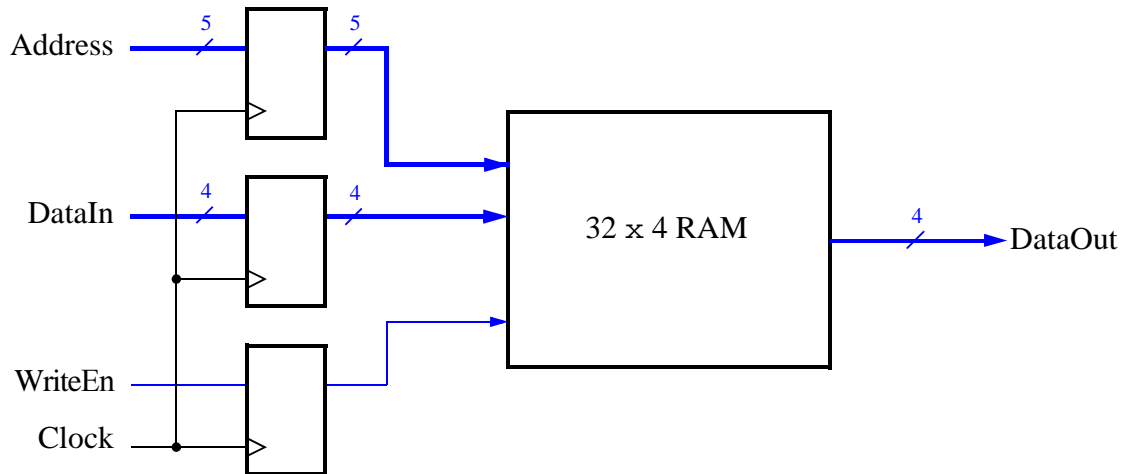

Figure 1: Schematic of the 32×4 embedded memory module.
A general sketch of a memory module is shown in Figure 1. It consists of a memory block, an address register, a data register and a control register (we're only looking at write operations in this example). You can see that the address, input data, and the write enable control signal are all stored in registers before being presented to the memory unit. The registers are used here to model the address and data registers on a typical processor and serve the function of keeping the input values stable for a full clock cycle while the inputs are being changed between clock cycles.
1. *A*: On the top left, the 5-bit input *A* is *Address* in Figure 1.
2. *M3 [Write enable]*: Just below *A*, *M3* is *WriteEn* in Figure 1.
3. *M2 [Output enable]*: this signal is not shown in Figure 1 but is used for reading values. If *output enable* is 1, the the memory at the address will be displayed on *DataOut*.